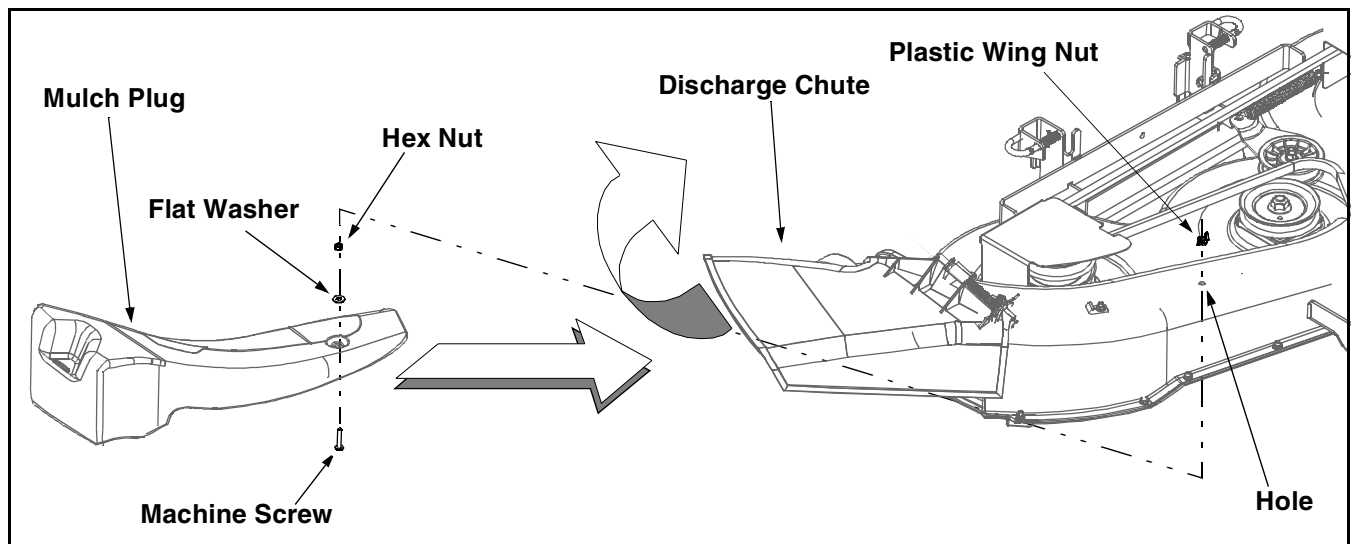

Figure 2
4. Insert the machine screw up through the mulch plug and fasten it in place with the hex nut and flat washer. See Figure 2.
5. Pivot the discharge chute upward as shown in Figure 2 and carefully insert the mulch plug into the discharge chute opening.